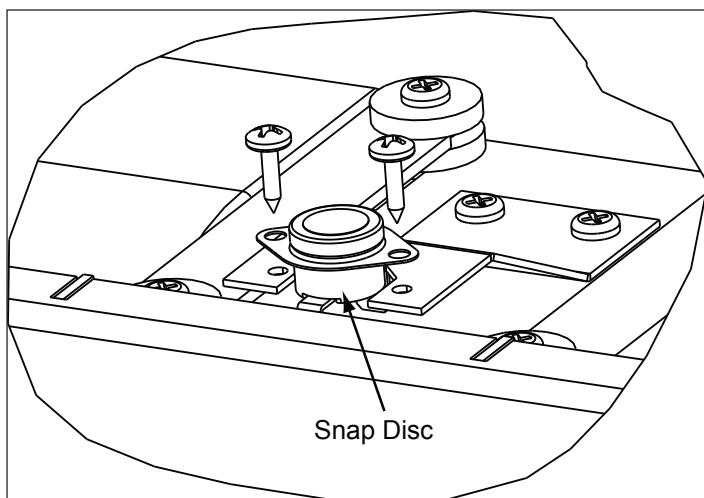

Figure 23.2
3. Pull the snap disc and spade connectors up and out of bracket as shown in **Figure 23.2.**